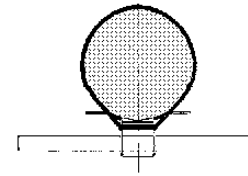

Figure 25
A.- Attachment using metal bands, regardless of the diameter of the post (figure 25).